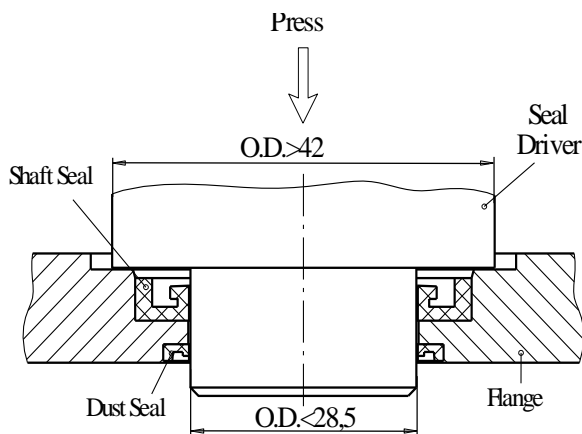

Fig.8
8. Place shaft seal in Flange and firmly push with Seal driver (see Fig.8).